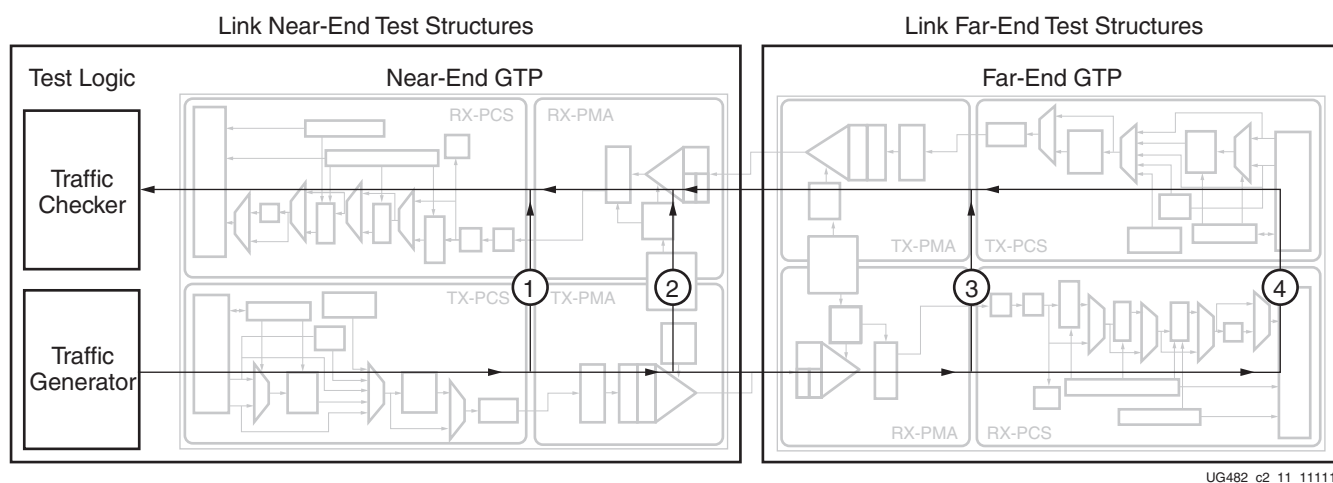

Figure 2-11: Loopback Testing Overview
Loopback modes are specialized configurations of the transceiver datapath where the traffic stream is folded back to the source. Typically, a specific traffic pattern is transmitted and then compared to check for errors. Figure 2-11 illustrates a loopback test configuration with four different loopback modes.
- Near-End PCS Loopback (path 1 in Figure 2-11)
- Near-End PMA Loopback (path 2 in Figure 2-11)
- Far-End PMA Loopback (path 3 in Figure 2-11)
- Far-End PCS Loopback (path 4 in Figure 2-11)